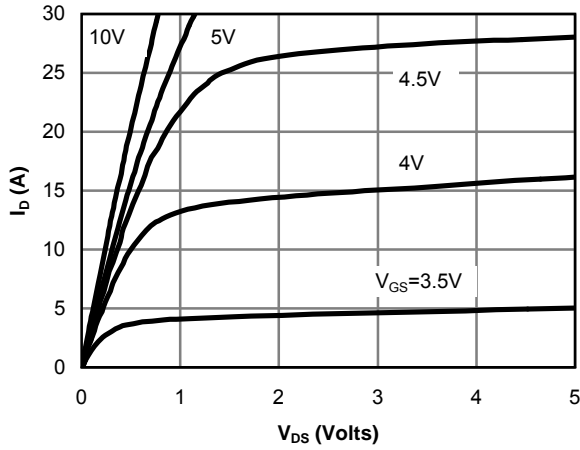

Fig 1: On-Region Characteristics
D. The static characteristics in Figures 1 to 6 are obtained using 80 $\mu\text{s}$  pulses, duty cycle 0.5% max.